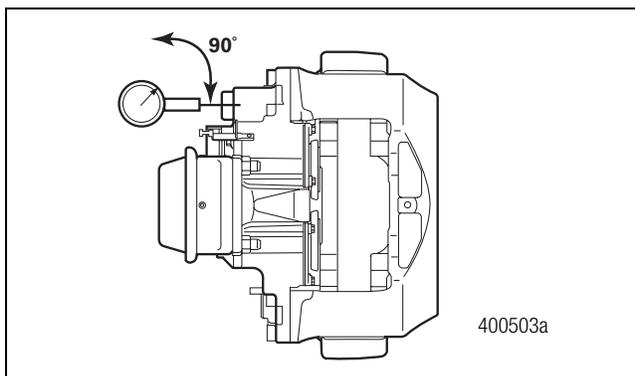

Figure 3.1
1. Attach a dial indicator to the torque plate or axle frame. The dial indicator reading should be taken from the slide pin cap. Figure 3.1.